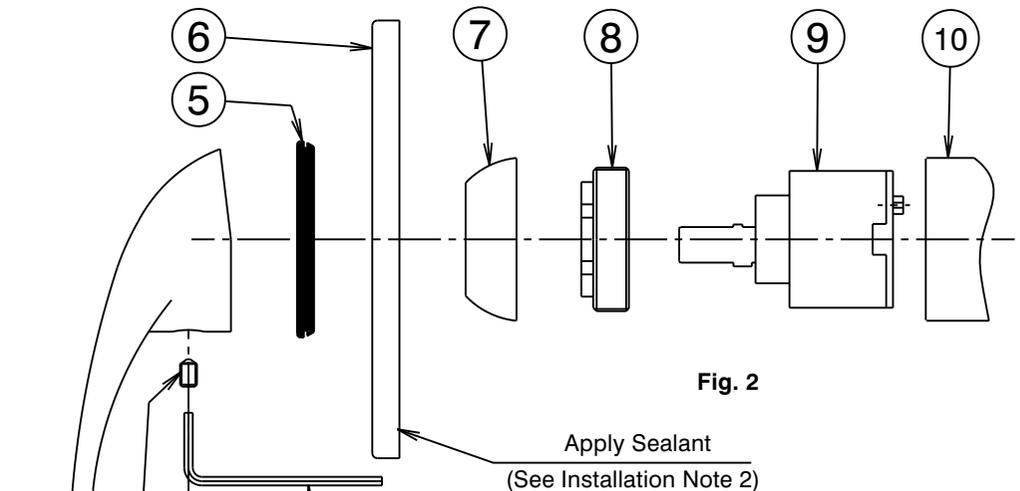

Fig. 2
- * Mixer body (10) must be installed square to wall/tile face, to ensure cover plate (6) sits flush.
- 2) Apply a suitable clear sealant to the back edge of the cover plate (6), to prevent water from entering the wall cavity, leaving an unsealed section at the bottom for drainage. (See Fig. 2)
Replacing Cartridge (Fig. 2)